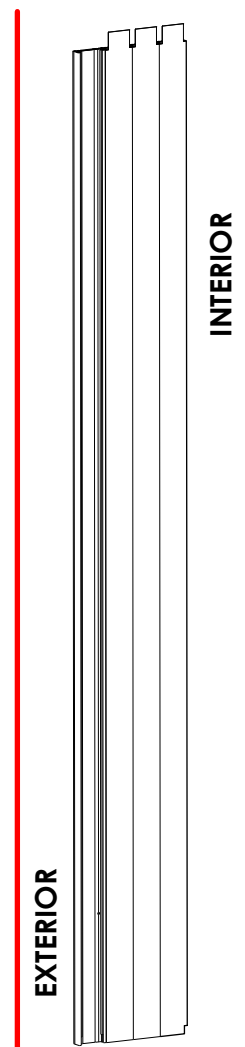

FIG 63
- Repeat for each track of each Jamb except the Lock Panel Track. **[FIG 63]**